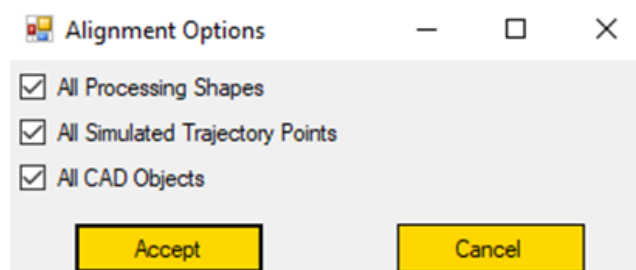

Figure 292: Alignment Options
2. In the Alignment Options Window, users have the ability to select what objects will snap (maintain their positional relationship) with the STL model that is being aligned. See Figure 292 (below).